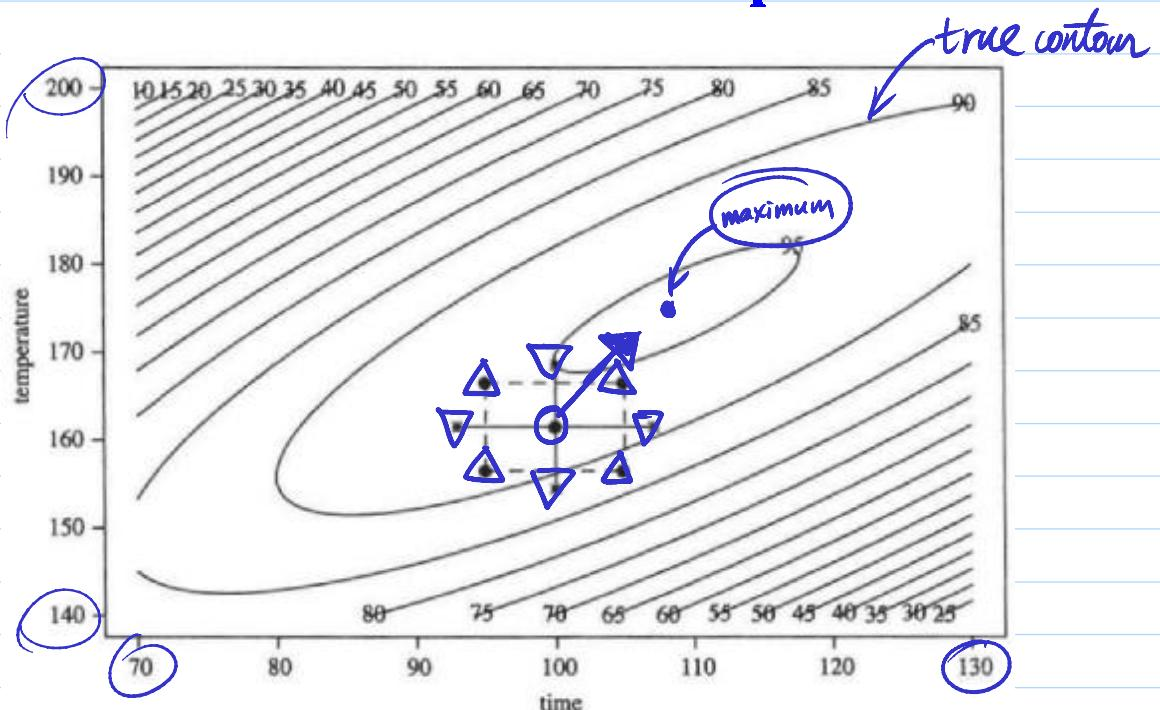

Figure 4: Second-order experiment
C.F. \rightarrow Figure 4 (LN p.3-20)